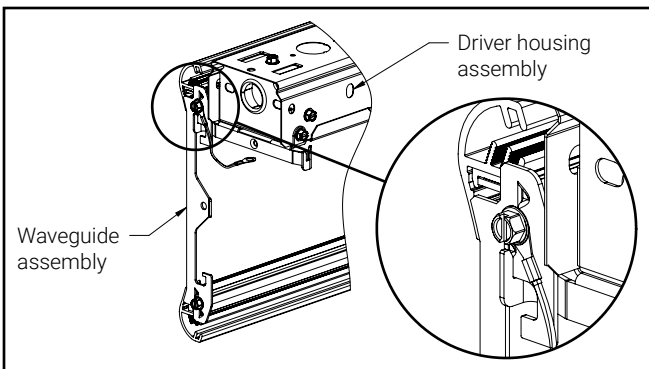

Figure 3.2
- Place waveguide assembly bracket inside the groove in channel hinge bracket. (Figure 3.2)